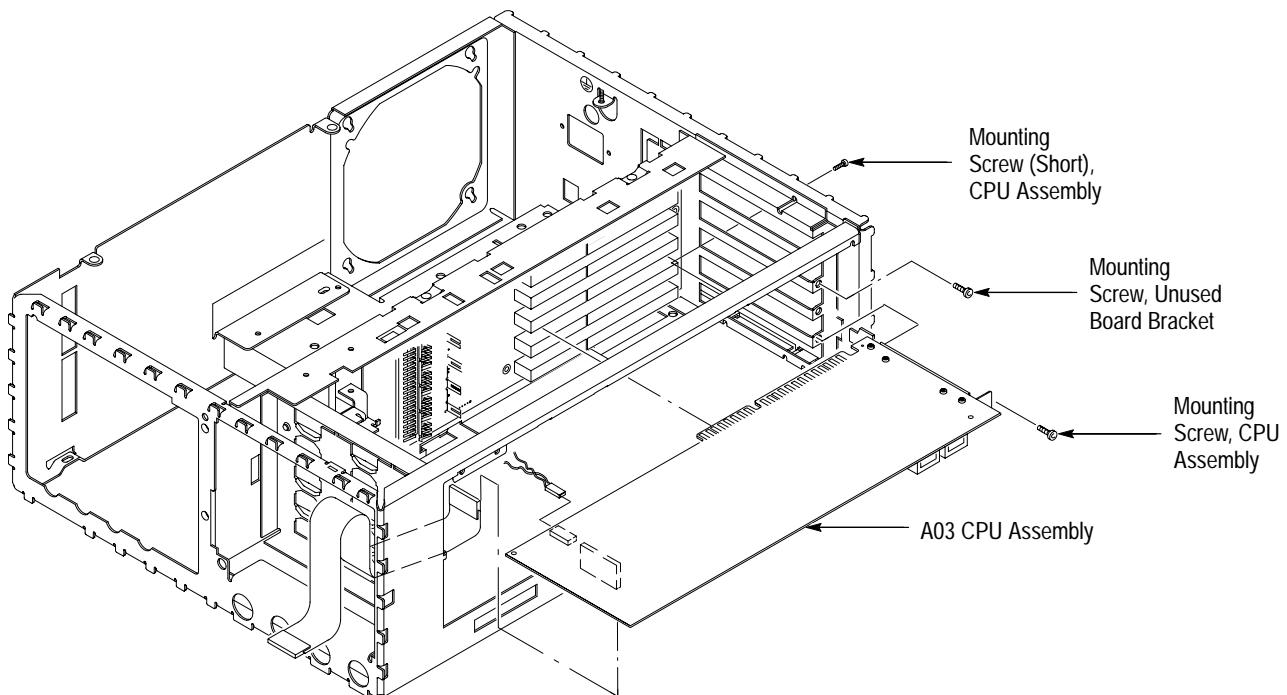

Figure 6–16: A03 CPU Removal
2. *Assemble equipment and locate modules to be removed:* Have handy a screwdriver with a size T-15 Torx® tip (Items 1 and 2). Locate the modules to be removed in the locator diagram *Internal Modules*, Figure 6–3 on page 6–19.
4. *Remove the display board:* Using Figure 6–17 as a guide, perform the following substeps: